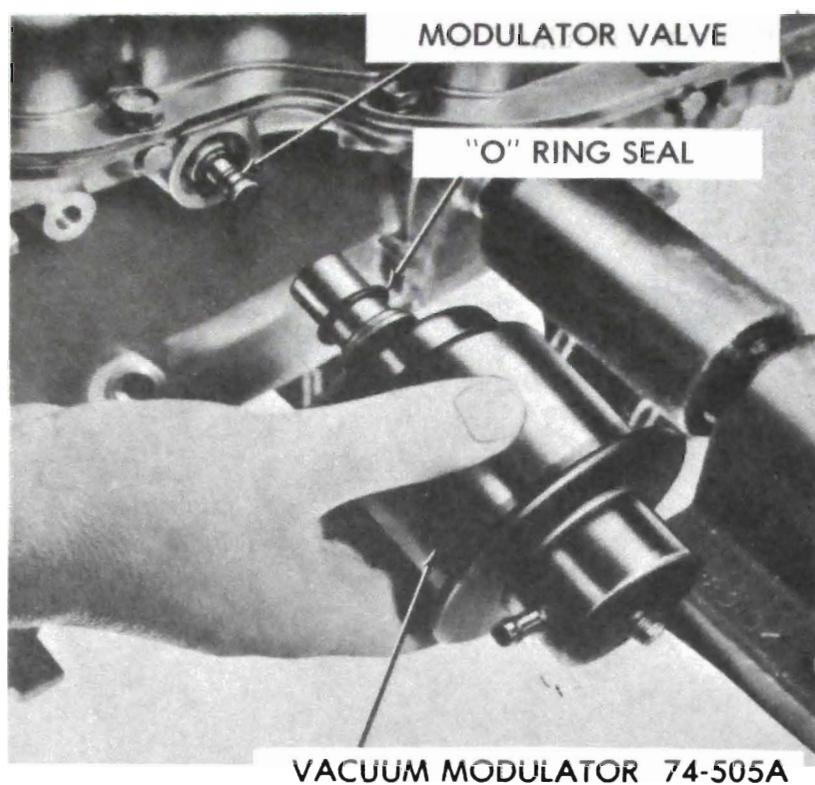

Figure 76-42
5. Remove modulator assembly and "O" ring seal from case. See Figure 76-42.
1. Install modulator valve into the case, stem end out. See Figure 76-42.